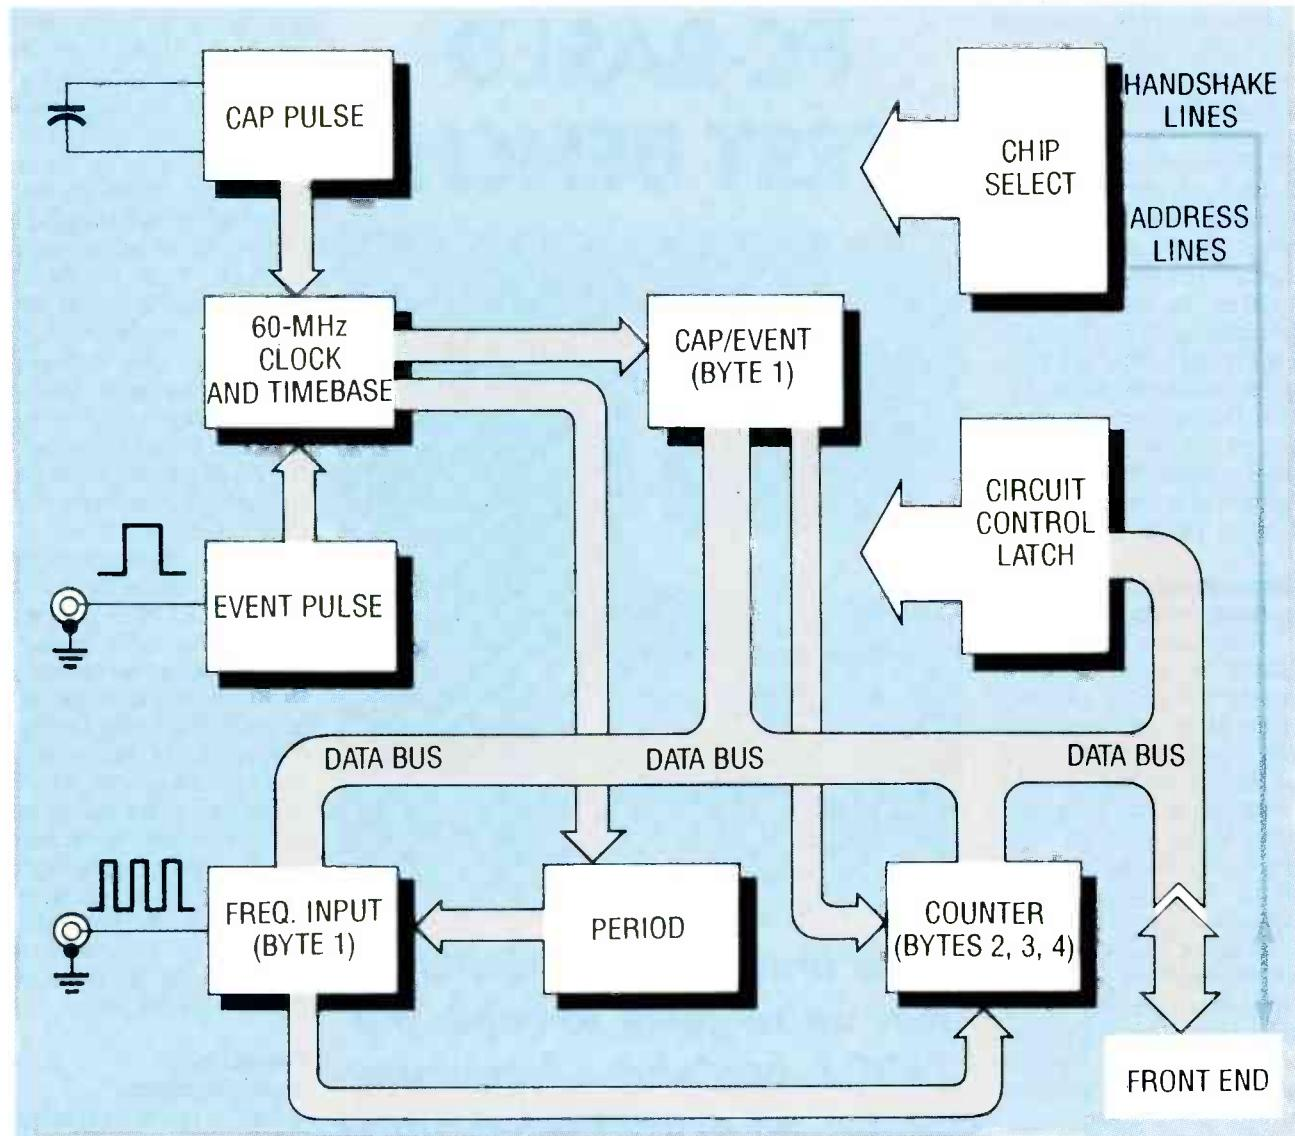

FIG. 1—T1001 BLOCK DIAGRAM. This peripheral contains a 100-MHz digital frequency counter, an event/period meter, and a precision capacitance meter.
1. **High-frequency (HF) allocations.** Figure 1 shows the additional frequency allocations made for high-frequency broadcasting. Four conditions were imposed on those allocations:
2. **Satellite sound broadcasting (BSS):** The issues here produced a genuine tug-of-WARC. The conference was divided from the outset on allocation of frequencies. Most Europeans wanted the more economical and propagationally suitable L-Band, with an allocation around 1.5 GHz. However, the U.S. was firmly opposed to that allocation because military aeronautical services are now operating in that band. The U.S. wanted the allocation in the S-band, around 2.3 GHz. Other countries, notably, China, Russia, Japan, India, and Pakistan, wanted the BSS allocation to be around 2.5 GHz. (See Fig. 1)
3. High-definition television (HDTV). This service ran into problems similar to those encountered in BSS, and there was no agreement on worldwide allocations. Instead, Europe, Africa, and Asia will use the 21.4- to 22-GHz band, and the Americas will use the 17.3- to 17.8-GHz band. Feeder links will be in the 18.1- to 18.4-GHz band in the Americas, and 24.25- to 25.25-GHz band elsewhere. (See Fig. 1) These bands will become available on April 1, 2007.
The Circuit Control Latch section (CCL) is made up of 16 control lines that are individually routed to every block depicted in Fig. 1. The purpose of the CCL section is to enable, disable, reset, start, and stop the major processes of the T1001. The Capacitor Pulse section, when started by the CCL section, produces a negative-going pulse whose period is proportional to the capacitor under test.